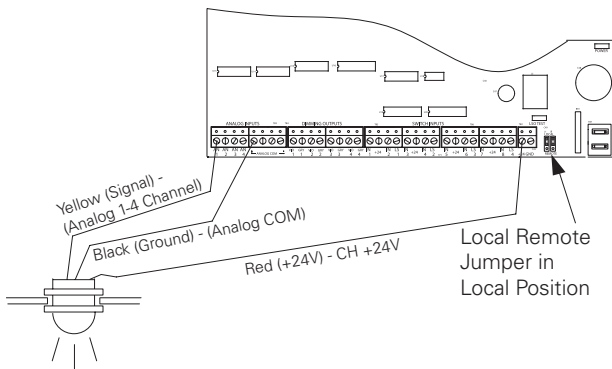

Figure 9: ControlKeeper 4A Analog Input Wiring
6. Ensure that the local remote jumpers have been moved to the local position (over the top 2 pins) for both jumpers (J7 & J8) to enable 24VDC to the low voltage switch channels. See Figure 9 for location.
7. Please see wiring detail in Figure 9 for details on connections of a Greengate provided analog photosensor to the ControlKeeper 4A system.